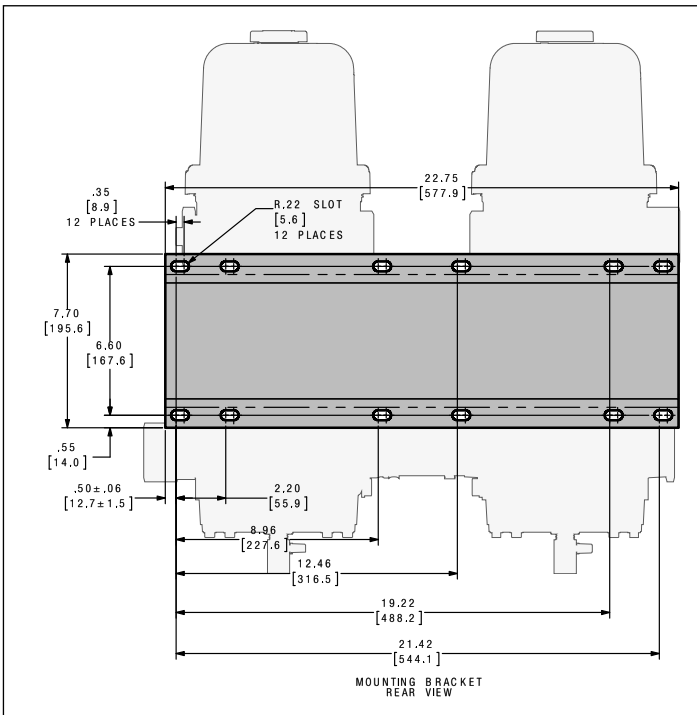

Figure 1- Mounting Dimensions
- Securely mount the Industrial Pro using twelve bolts (3/8"-24UNF or M10). (See Figure 1)